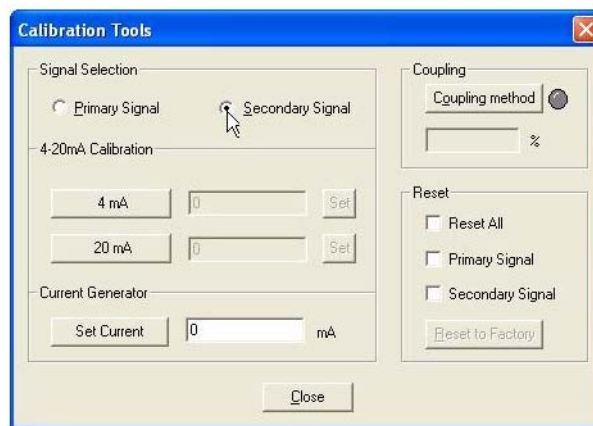

Figure 223 Selecting Signal
- Click on the radio button, located to the left of the signal name (Figure 223).